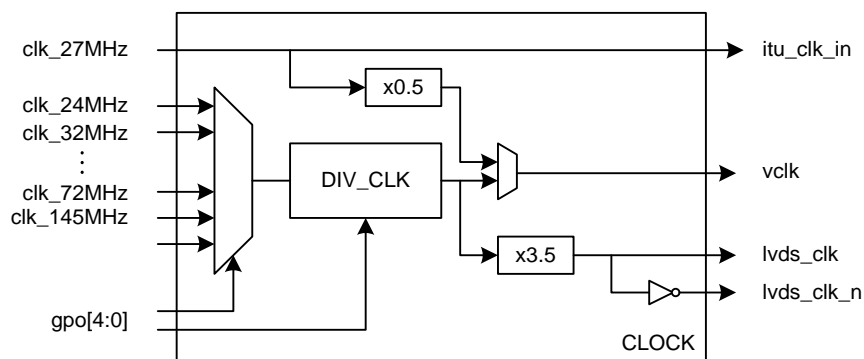

Figure 3.1: Example clock generator block schematic
- A custom FPGA clock module with predefined clock frequencies similar to the one outlined in Figure 3.1. This module can then be controlled with the GPO signals, which are outputs from the logiCVC-ML core.